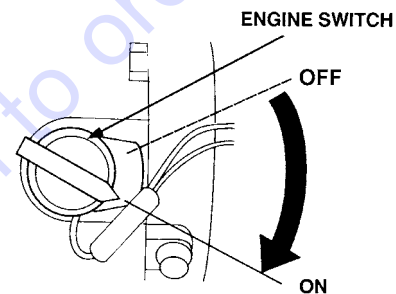

Figure 15. Engine On/Off Switch
4. Turn the engine switch (Figure 15) to the ON position.